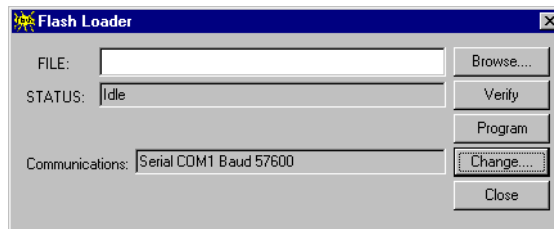

Figure A.1 *Flash Loader*
- Select *Tools > F6000 Flash Loader* in the ProTesT menu bar to open the program and the *Flash Loader* window appears (Figure A.1).